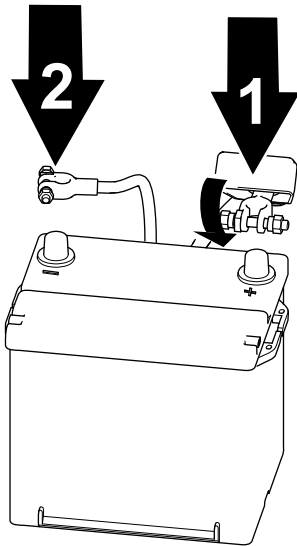

Figure 59
1. Connect the positive cable to the battery and tighten the battery-clamp nut (Figure 59).
2. Connect the negative cable to the battery and tighten the battery-clamp nut (Figure 59).